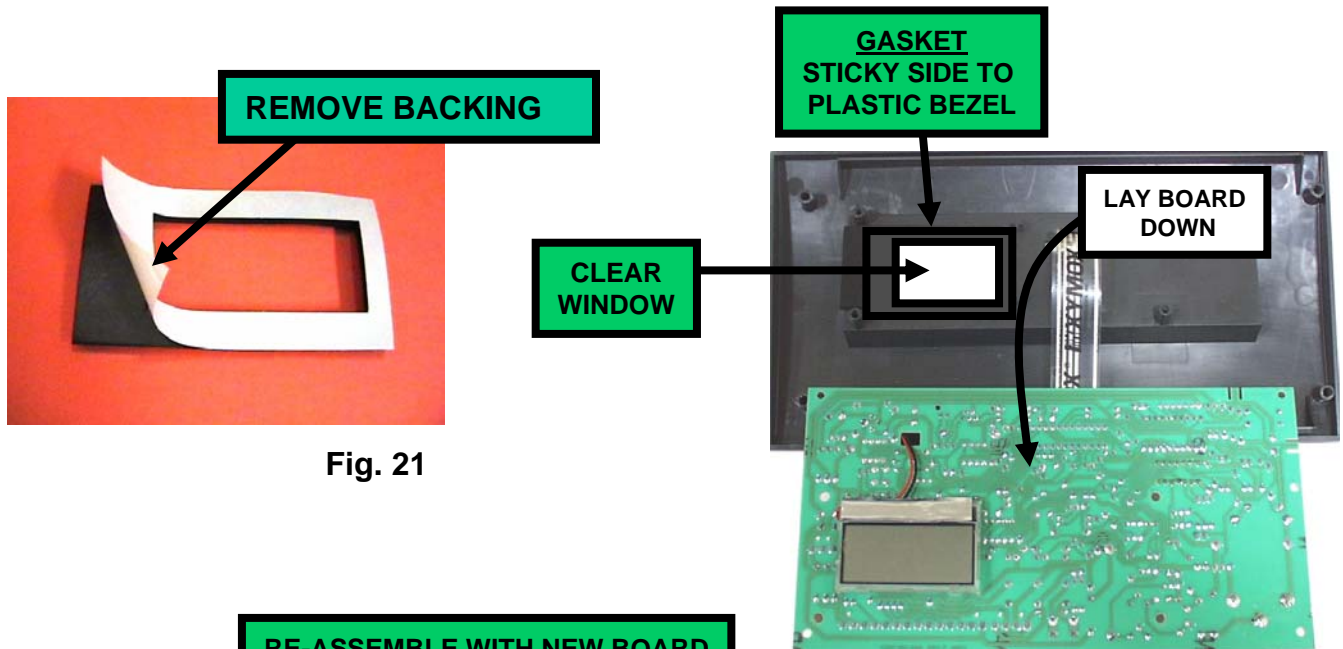
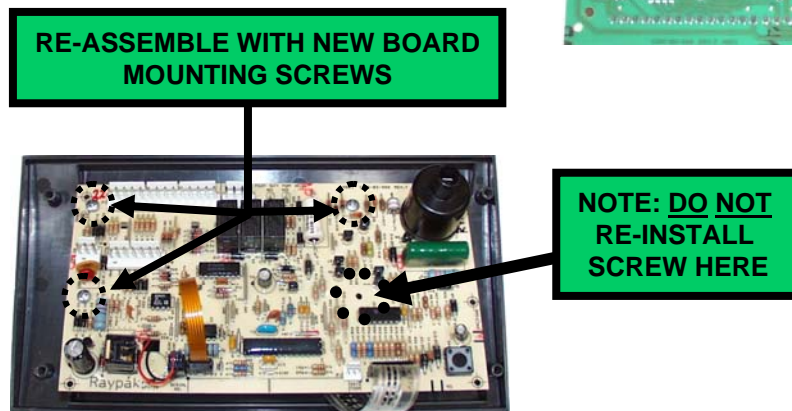

Fig. 22
Fig. 23
2. Re-assemble with new board to plastic bezel using the three mounting screws as shown in **Fig. 22 & Fig. 23**.